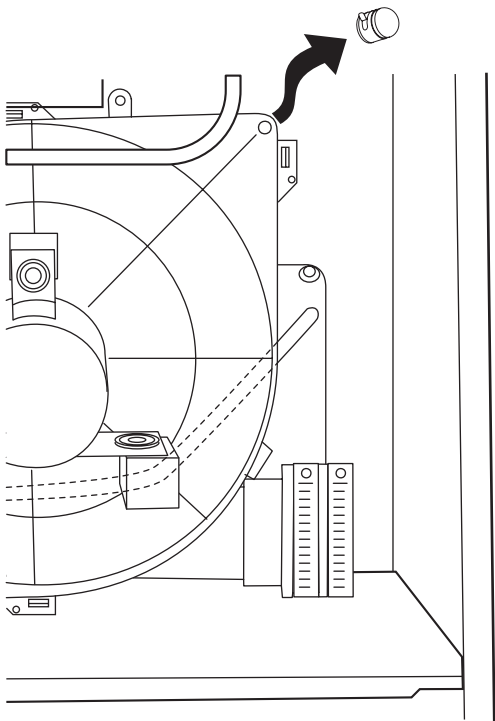

Fig. 41 – Inducer Housing Drain Tube
- Remove upper inducer housing drain connection cap. (See Fig. 41.)
The thermostat closes the R to G and-Y1 circuits for low cooling or closes the R to G and-Y1-and-Y2 circuits for high-cooling. The R to Y1 circuit starts the outdoor unit on low-cooling speed, and the R to G-and-Y1 circuit starts the furnace blower motor BLWM on low-cooling airflow which is the true on-board CF selection as shown in Fig. 41. The R to Y1-and-Y2 circuits start the outdoor unit on high-cooling speed, and the R to G-and-Y/Y2 circuits start the furnace blower motor BLWM at high-cooling airflow. High-cooling airflow is based on the A/C selection shown in Fig. 39.